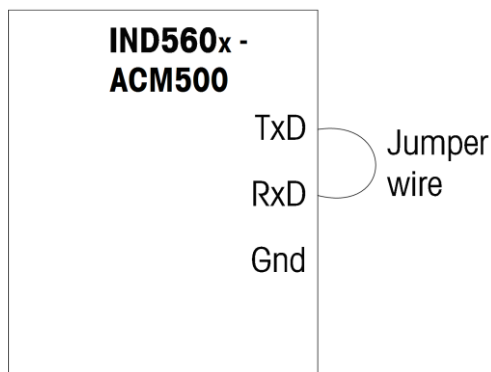

Figure 4-9: Jumper Wire Between Transmit and Receive Terminals on COM1
1. Place a jumper wire between the transmit and the receive terminals of the COM port to be tested as shown in Figure 4-9.